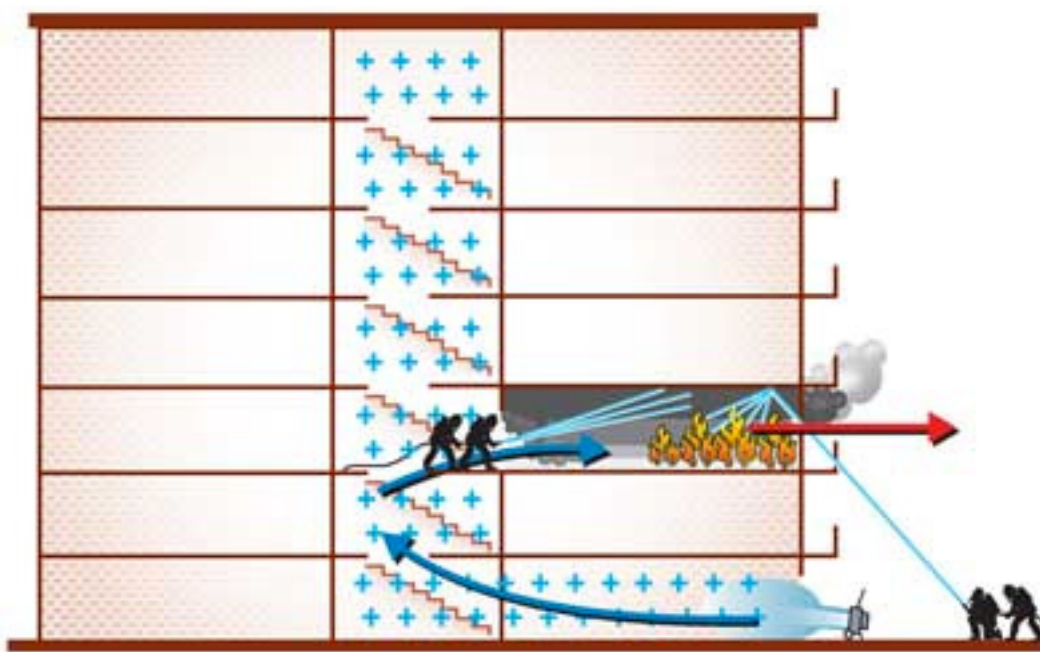

Figure 4. Positive Pressure Attack on the Softened Fire
**4. PPA on the softened fire.** Once the flammability of the fire gases and the interior temperature have been reduced, a PPA can begin. A flow path is created from the entrance door to the window at which the transitional attack was performed. Excess smoke and steam will be removed rapidly. Fire reaction to ventilation will be milder because of the “softened” conditions prior to PPV (Figure 4).